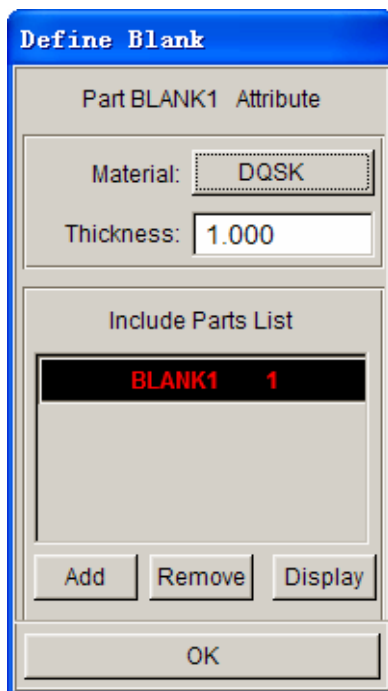

Figure 4.33: Define Blank dialog box
- 8) Click “OK” to return to the Define Blank dialogue window, then user may find the None button behind Material has been changed into the selected material type name of DQSK, which indicates the part has been assigned a kind of material. See figure4.33.